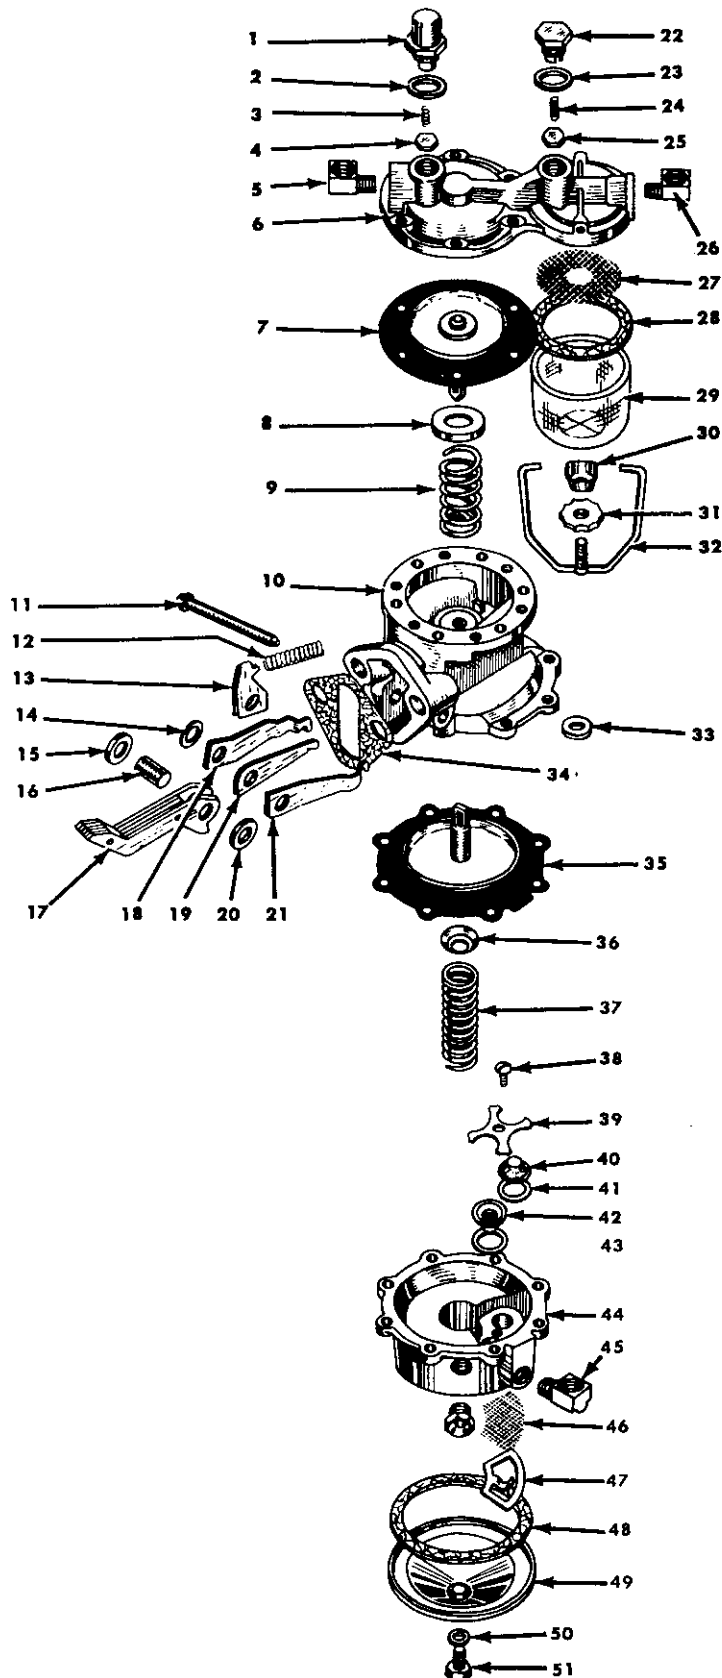

FIG. 392—PARTS OF THE FUEL AND VACUUM PUMP
To disassemble the rocker arm assembly, remove the steel bushing (16, Fig. 392). This allows the removal of the vacuum links (18 and 21), fuel link (19), link spacer (13), link washers (14), and the two outer spacer washers (15 and 20).
Remove the vacuum section cover plate screw (51, Fig. 392) with gasket (50). Remove the cover plate (49), gasket (48), and screen retainer (47) and screen (46).
Assemble the link spacer (13, Fig. 392) over the fuel link (19). Place the vacuum links (18 and 21) on each side of the fuel link. The hooks ends of the vacuum links should come together so that they surround the fuel link and all link hooks should point in
Place a drop of light oil on outlet valve (4, Fig. 392) and install the valve in the chamber over the diaphragm. Insert the valve spring (3) in the air dome (1). Install the dome assembly and gasket (2)
Turn the vacuum section over and set the screen (46, Fig. 392) in the recess over the valve hole. Set the screen retainer (47) on the screen. Place the cover plate gasket (48), cover plate (49), cover screw gasket (50), and cover screw (51) in position in the order named. Tighten the cover screw.